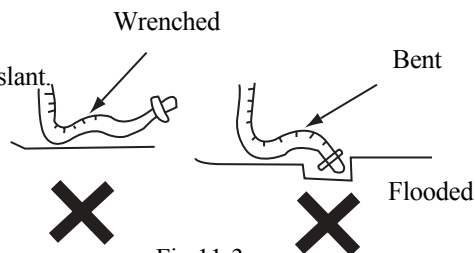

Fig.11-3
2. Do not wrench or bend the drain hose or flood its end by water. (As shown in Fig.11-3)